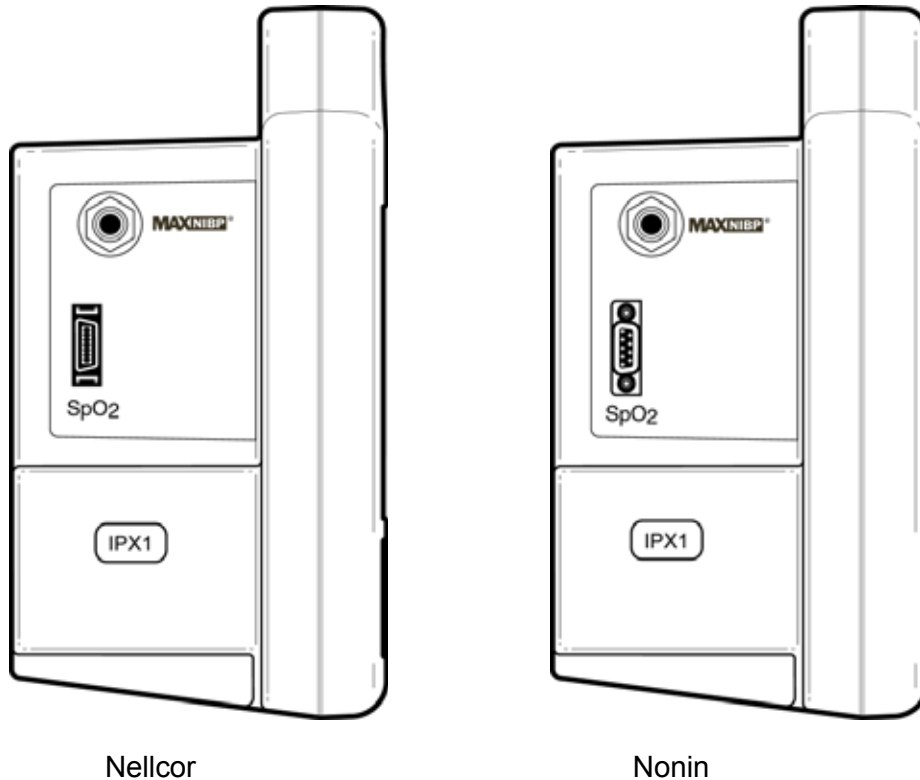

Figure 5: Left Panel Views
The six (6) foot, Inflation Hose is connected to the monitor where the MAXNIBP logo is located as shown in Figure 5. The hose must be connected to the cuff prior to use.